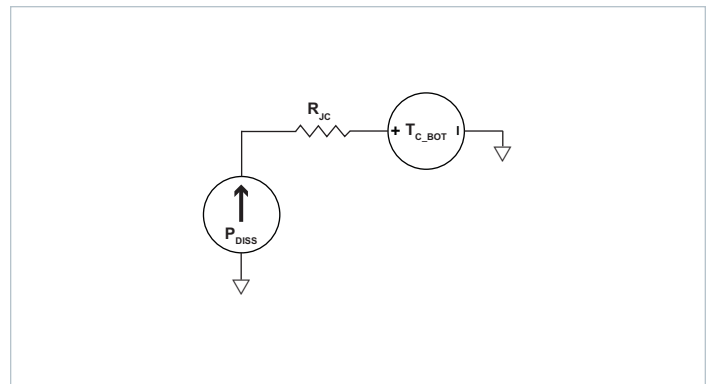

Figure 25 – Single-sided cooling VIA thermal model
- Single side cooling: the model of Figure 1 can be simplified by calculating the parallel resistor network and using one simple thermal resistance number and the internal power dissipation curves; an example for bottom side cooling only is shown in Figure 25.